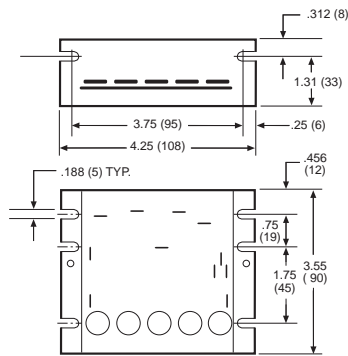
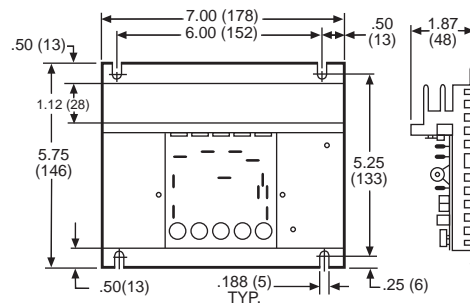

FIGURE 1. DCX102C and DCX202C Dimensions
FIGURE 2. DCX302C Dimensions
- Chassis Models** — The units are furnished as a very compact open chassis consisting of the regulator/power conversion circuit board mounted to a formed aluminum chassis. Some models may be furnished with a supplemental heatsink (Options DCX-RHTSK & DCX-HTSK) to improve heat dissipation and thereby extend the horsepower range. Chassis units are dimensionally interchangeable with many competitive units. See Figure 1 for dimensions of Models DCX102C and DCX202C. See Figure 2 for dimensions of Model DCX302C.
- Full-Wave Power Conversion** — NEMA Code K converter configuration formed of discrete devices rated 600 PIV. Converter consists of two (2) SCR's, two diodes and a free wheeling diode which provide optimum form factor for best motor performance and long service. Enclosed models use the control enclosure as an integral heatsink with the power control devices electrically isolated from the enclosure.